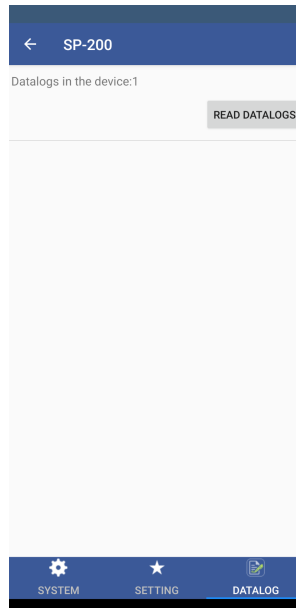

Figure 26.
4. If the connection is successful, the SP-200 and its Serial Number (SN) will be displayed (Figure 26).